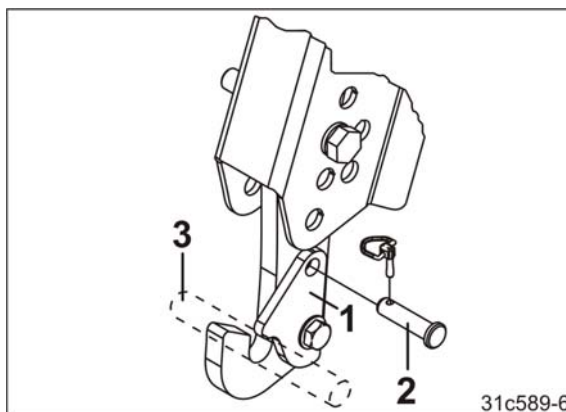

Fig. 108
2. Release the locking straps (Fig. 108/1).
- 2.1 Remove the pins (Fig. 108/2).
5. Engage the lower pivot points (Fig. 108/3) of the seed drill using the catch hooks.
7. Swivel the locking straps (Fig. 108/1) and secure each with a pin (Fig. 108/2). Secure the pins with linch pins.